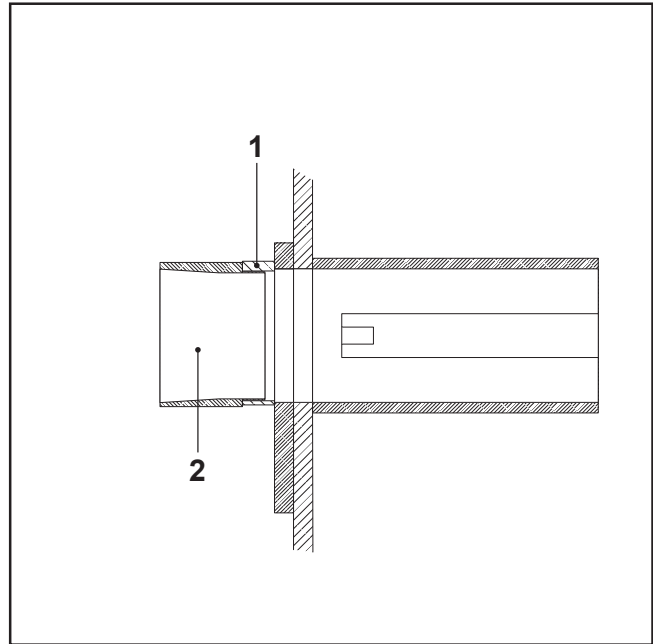

FIG.68
- Slide the guide spacer (FIG. 68-REF. 1) onto the cylindrical part of the guide ring (FIG. 68-REF. 2) with the countersunk part facing outward.